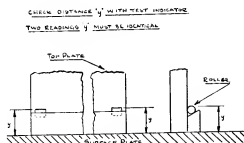

Fig. 3
(4) The front side-piece can be assembled to the top plate as soon as these are finished, the rear-piece being put aside for the time being. Before assembly, the parts must be perfectly clean, and, if the work is well done, they may wring together. They are then clamped together with toolmakers' clamps, one at each end. In this position the outer edges of the two parts should be flush with one another. The centre hole can then be drilled and tapped in the side-piece (using the top plate as a jig), and a 1-B.A. screw driven firmly home. One clamp is then removed, a second hole drilled and tapped and a second screw put in. The third hole can then be attended to, and finally the holes for the dowels drilled and reamed. Note that the diameter given in the drawings for the dowels provides a drive fit in holes produced by the writer's reamer. It should not be assumed that this diameter will give this kind of fit in holes made by all "standard" reamers of the size indicated. The ragged edges of holes made during assembly should be removed by light countersinking with a larger drill.
(5) In work of this kind it is good practice to have a datum face which shall lie in a plane parallel to the line of motion of the slide, and while this is not essential in a lathe top slide, it is convenient both for the purposes of construction and future use. Therefore, the outer edge of the partly-made slide should be worked up by filing and scraping until it complies with the test shown in Fig. 3.